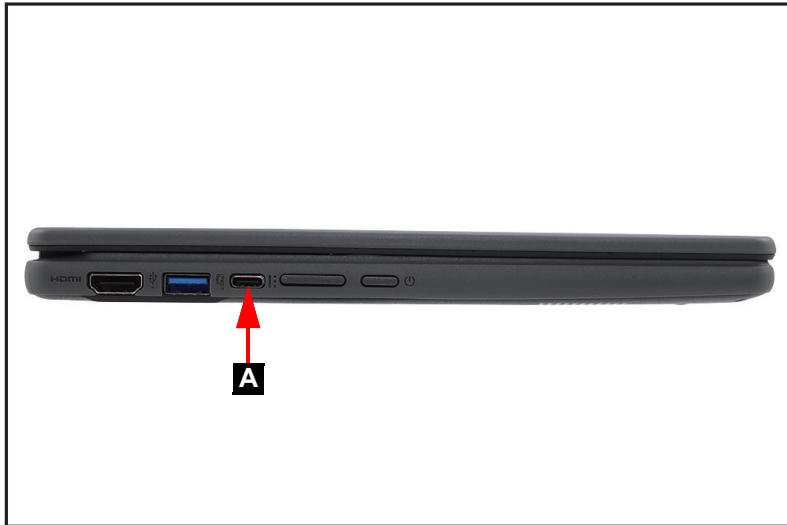
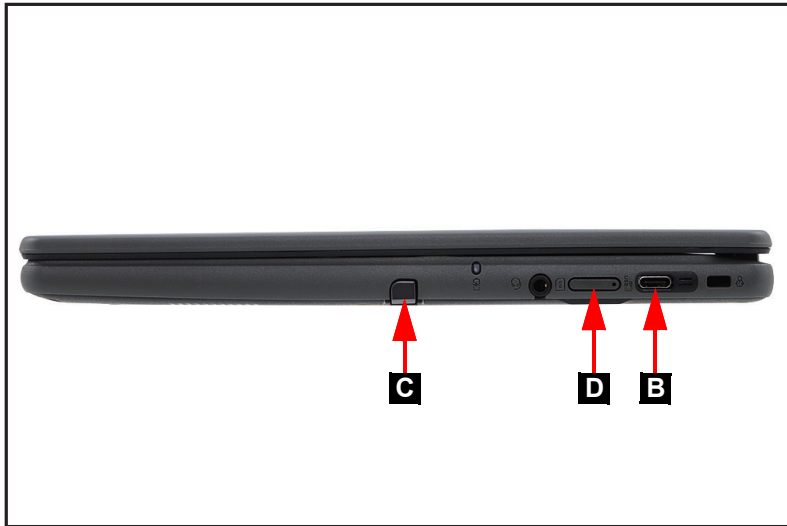

Figure 1-1. Adapter Outlet
Figure 1-2. Adapter Outlet & Stylus and SIM Card Removal
2. Remove the power adapter from the USB Type-C port (A) as shown in Figure 1-1 or from the USB-C port (B) as shown in Figure 1-2.
4. Remove the stylus from the stylus slot (C) (Figure 1-2).
5. Insert the eject tool into the hole on the SIM card tray (D). Then push to eject the card tray and remove the SIM card (LTE SKU only) (Figure 1-2).